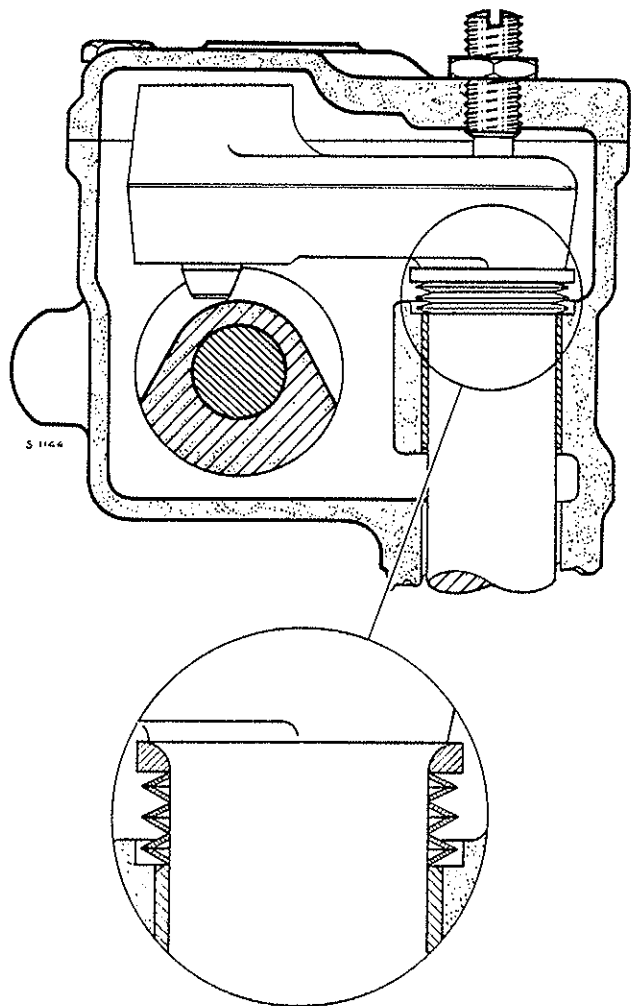

Fig. J.8. Sectional view of the steering casing and rocker shaft
3. Before refitting the rocker shaft, it is advisable to temporarily tape the splined end of the rocker shaft to prevent damaging the oil seal. Also re-assemble the flat plain thrust washer with the radiused inner diameter corresponding to the radius at the neck of the rocker arm and shaft as shown in Fig. J.8. The six disc springs should then be re-assembled to the rocker shaft in pairs. With the end discs having convex faces to the outside (see Fig. J.8). Refit the rocker shaft and remove the tape from the splines.